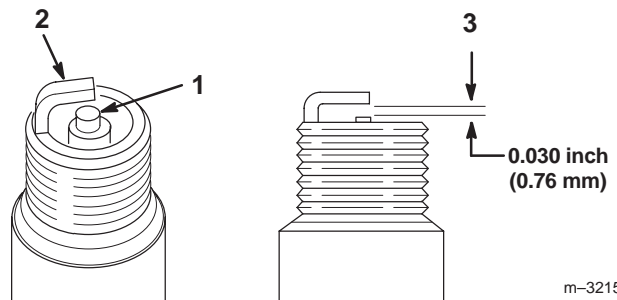

Figure 44
1. Look at the center of the spark plug(s) (Fig. 44). If you see light brown or gray on the insulator, the engine is operating properly. A black coating on the insulator usually means the air cleaner is dirty.
2. Check the gap between the center and side electrodes (Fig. 44). Bend the side electrode (Fig. 44) if the gap is not correct.